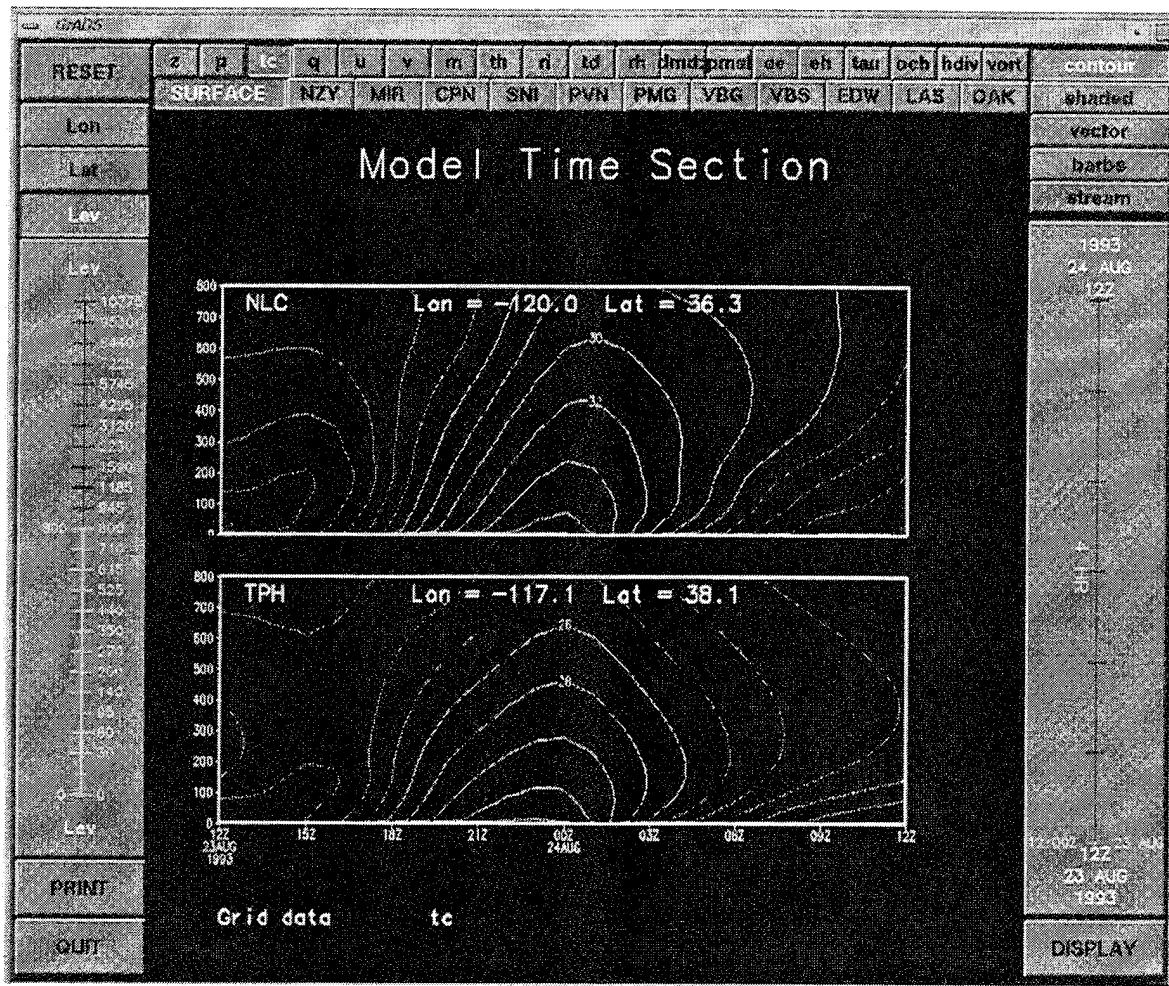

Figure 12. Typical model time section.
6.5 Model Time Section Display. Once stations have been selected, it is possible to plot a Z-T section of model data at the selected location by first defining the desired range in Z by using the middle mouse button on the level bar and then clicking in the center of the window with the middle mouse button (Fig. 12). (Note: To change the station selection you must first reset the level to a single value of Z or the display will animate in Z when the map display is activated.)